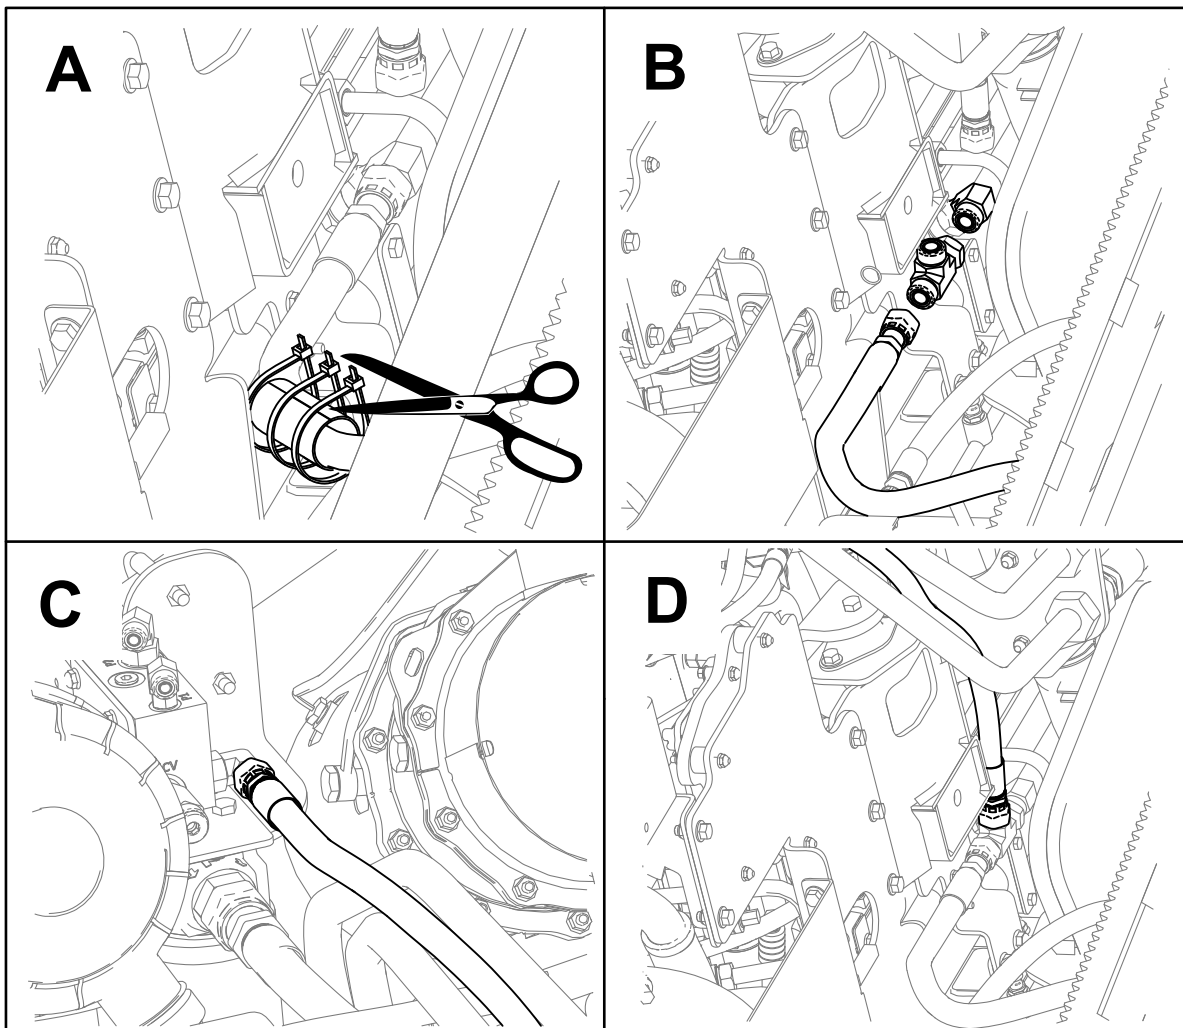

Figure 4
1. Cut the cable ties on the hose guard and set the guard aside (Box A of Figure 4).
2. Disconnect the hose from the fitting on the case drain hard line (Box B of Figure 4).
3. Install the large tee between the fitting and disconnected hose (Box B of Figure 4).
4. Install the 84 cm (33 inch hose) in port CD on the manifold and the top of the tee fitting (Box C and D of Figure 4).